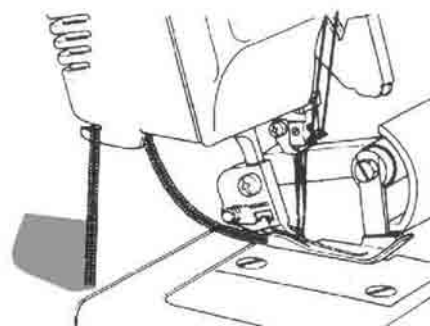

Fig. 52
- Cut the empty chainstitch by using the blade at the rear of the machine (Fig. 52).